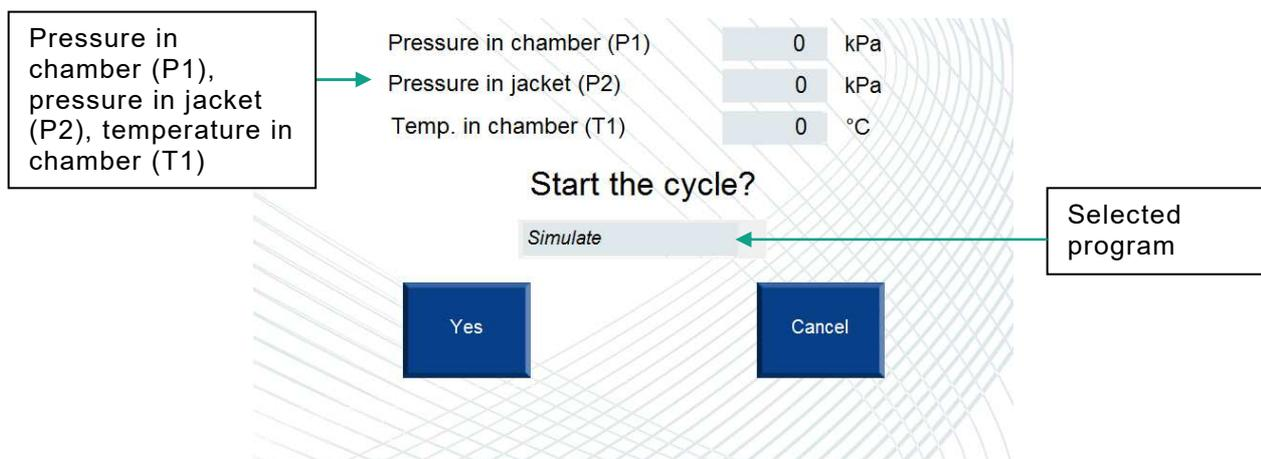

Fig. 7
**Start** – pressing this button starts the process. The button is active only when the sterilizer is ready to run. The sterilizer is ready to run if the following conditions are met: the doors are closed, there is no emergency message, a sterilization program has been selected, pressure in the jacket reached Pmax for the selected sterilization program. Pressing this button displays the process start confirmation window (Fig.7).
This message itself off after 10 seconds and will appear start the cycle window (Fig. 7)